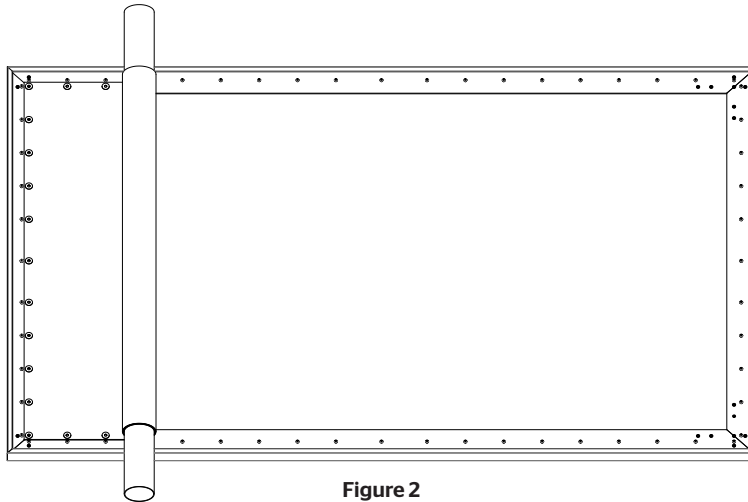

Figure 2
3. Remove foam and unroll screen surface evenly on the back of the frame. Make sure that the perimeter of the screen surface is resting on the frame. See Figure 2.